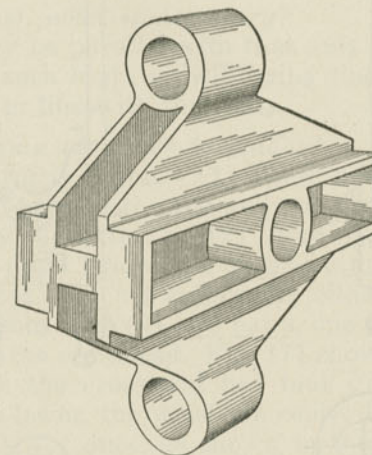

Fig. 170. Crosshead, Vaucain Compound Locomotive.
*A. As shown in Fig. 170, having two sockets, one for each rod; the entire block being of cast steel in one piece and having its wearing-surfaces covered with block tin 1/16 inch thick.*